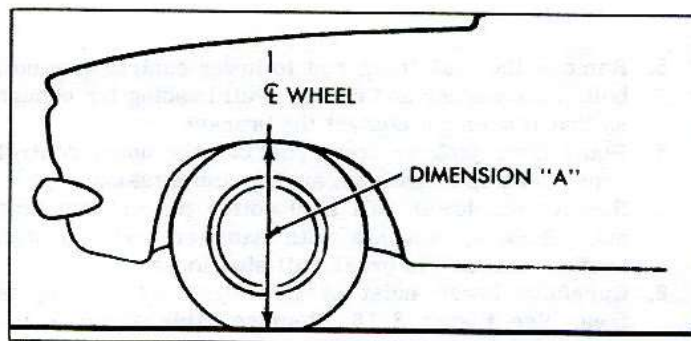

Fig. 3-14—Checking Riding Height
3. Measure the distance from the floor of shop area to the top of the wheel well opening at the centerline of the front wheel (fig. 3-14).